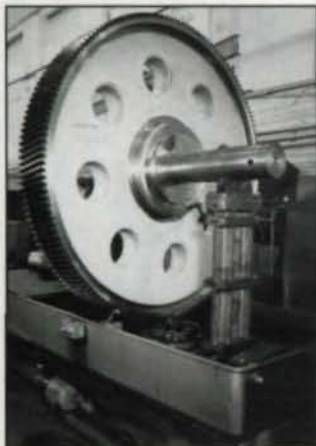

Fig. 22—Heavy-duty crane travel drive gearing.
- Heavy-duty crane travel drive gearing where the needed contact accuracy by heavily loaded carburized gearing cannot be achieved in a continuously flexing gear case (Fig. 22).